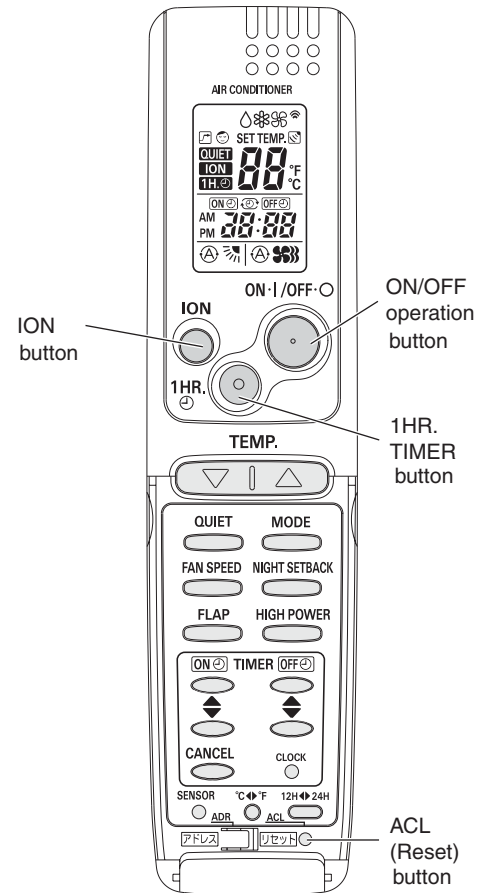

Fig. 8a
(Fig. 8a)
(2) Start Cooling mode test run by pressing the ON/OFF operation button of the remote controller. (Fig. 8a)
(3) Press the ON/OFF operation button of the remote controller again to stop the test run. (Fig. 8a)
(4) Finally press the ACL (reset) button of the remote controller to release it from Test Run mode to return to normal mode. (Fig. 8a)